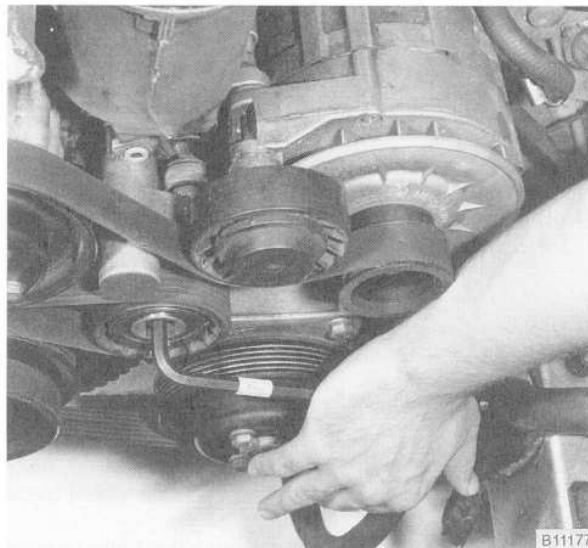

Fig. 12. Poly-V belt tensioner being released. Pry off tensioner cover and then lever tensioner clockwise to release belt tension.
5. Loosen coolant pump pulley mounting bolts. Then remove drive belt. See Fig. 12. Remove pulley from pump.